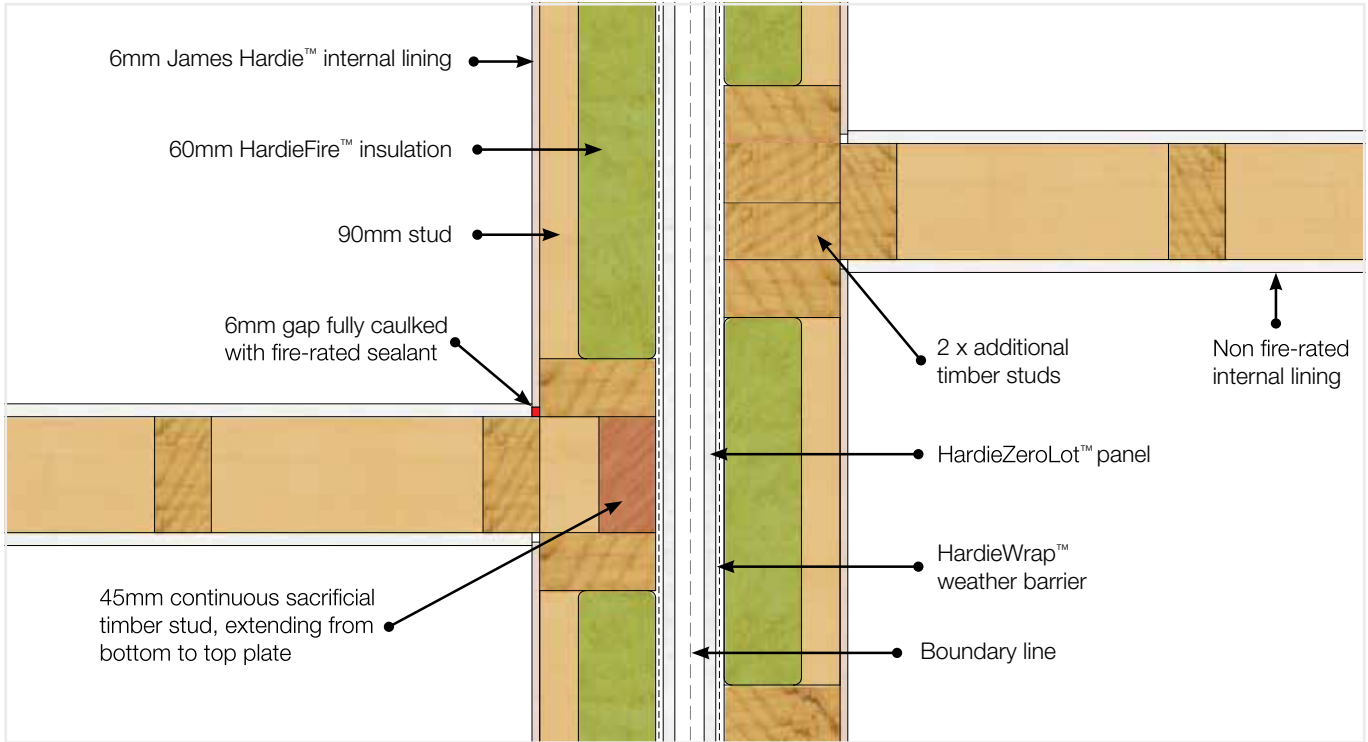

FIGURE 35 INTERNAL NON FIRE-RATED WALL JUNCTION
**WARNING:** When fixing lining, avoid nailing near pipes or cables as it may cause damage. Refer to Figure 35 for plate and stud penetration details.
Refer to Figure 35 for drill hole size and location